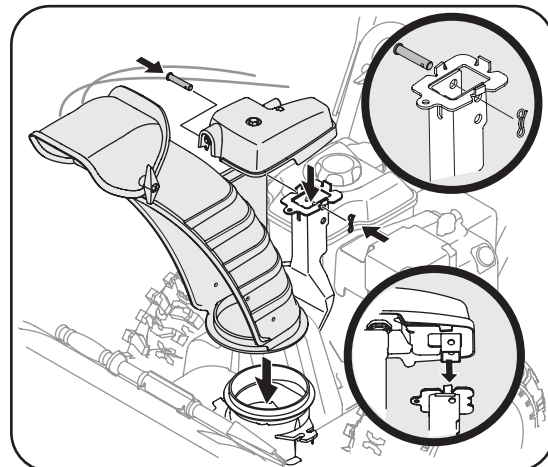

Figure 3-3
- Place chute assembly onto chute base and secure chute control assembly to chute support bracket with clevis pin and cotter pin removed earlier. See Figure 3-3.